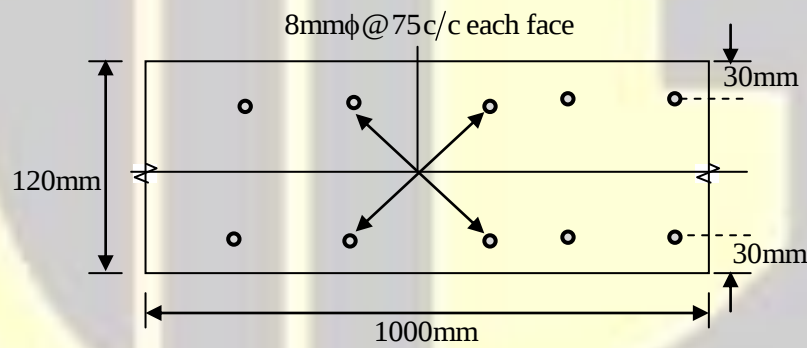

Figure 10
- (c) The floor of a water tank is subjected to a direct pull of 50 kN/m and bending moment of 0.5 kNm/m in the vertical plane. A section of the floor is shown in Figure 10. Find the maximum stresses in concrete and steel. Assume M 30 concrete. Permissible bending stress in concrete = 10 MPa. Use Fe 415.